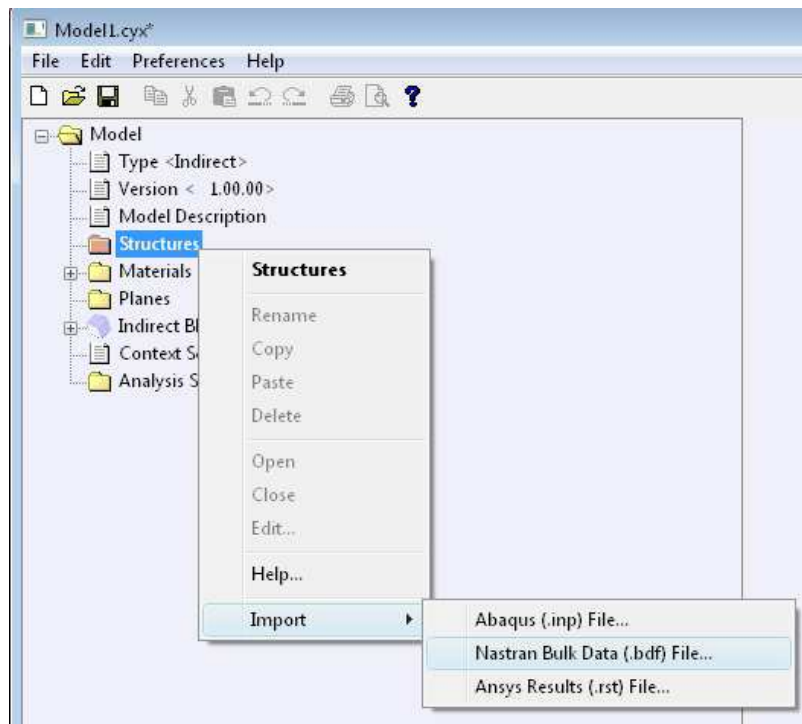

Figure 5: Import a finite element structure mesh.
- Right-click on **Structures** and select: **Import > Ansys Results (.rst) Files** (as shown in Figure 5) to import mesh from Nastran bulk data format. The FE meshes from Abaqus and Nastran bulk data formats can be imported by selecting **Abaqus (.inp) File** or **Nastran Bulk Data (.bdf) File...** respectively.